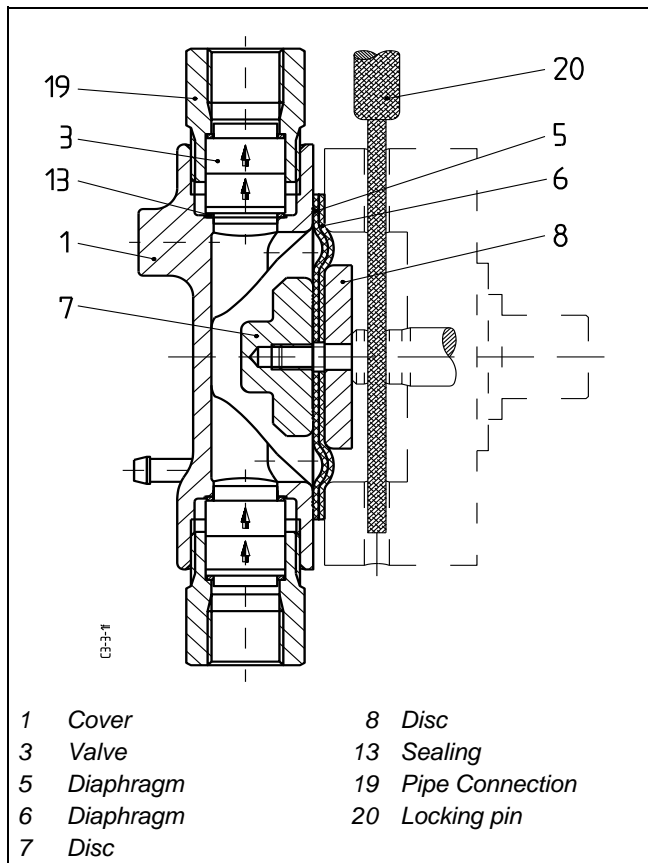
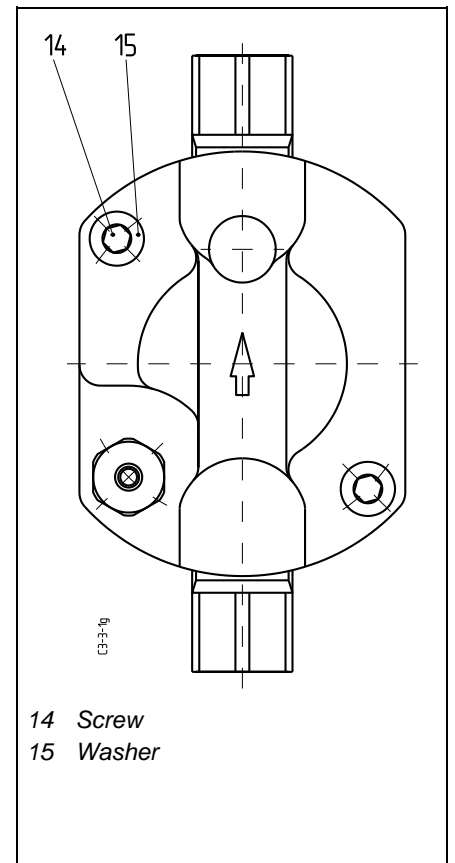

Fig. 3.6: Sectional View
Fig. 3.7: Plan View
The replacement of the diaphragm from the gear models G1 is shown in *Fig. 3.6* and *Fig. 3.7*.
- Extract the screws (14) uniformly and remove the cover (1).
- To prevent movement of the push rod insert a screw driver or a locking pin through the bores in the yoke and push rod (see Fig. 3.6).
- Dismantle the double diaphragm by unscrewing the disc (7).